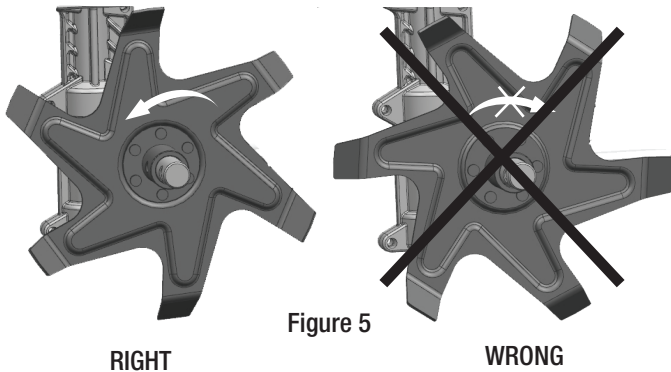
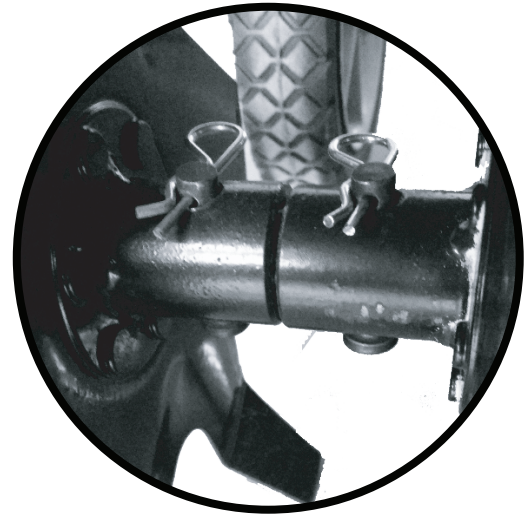

Figure 5
Figure 6
- The rotation direction of all tines should be installed in the forward direction (blade tips angle rearward), as shown in Figure 5, and the pin should be inserted as shown in Figure 6.